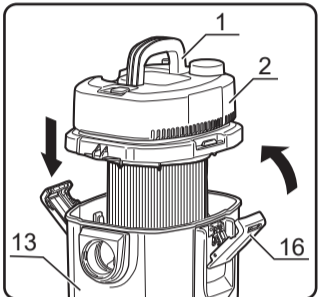

fig.5
- Replace the top cover(2) onto the container(13). (fig.5)
- Align the top cover with the latches and snap into place, by applying pressure at the mid point of the latches. (fig.5)